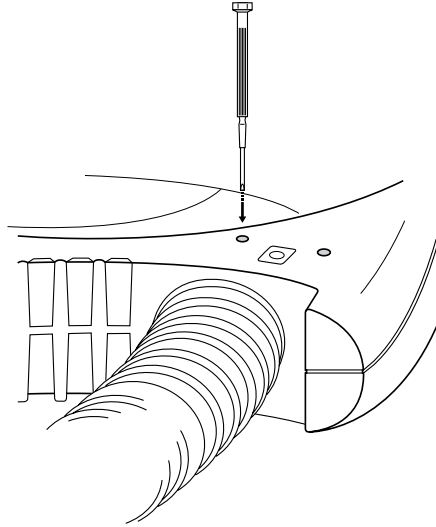

Figure 10. Calibration access hole to adjust pot.
6. Insert a flat-headed, 2-mm screwdriver into the calibration access hole to a depth of approximately 1/2 inch (see Figure 10). Turn the pot very slowly until the steady state temperature reading is 43°C. Wait at least 5 minutes to ensure steady state ( $43.0 \pm 0.5^\circ\text{C}$ ).